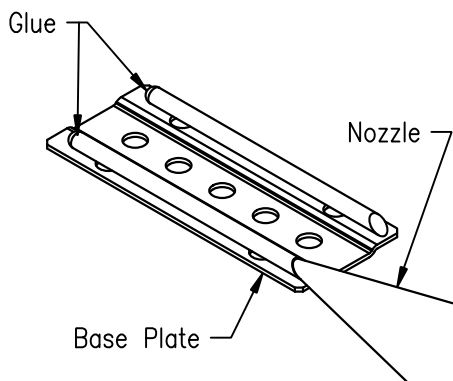

Figure 3
4. Apply two beads of glue, approximately 5 mm [3/16"] in diameter, along the bottom of the base plate covering the holes along the edge as indicated in Figure 3. Failure to apply an adequate amount of glue may compromise the strength of the connection.